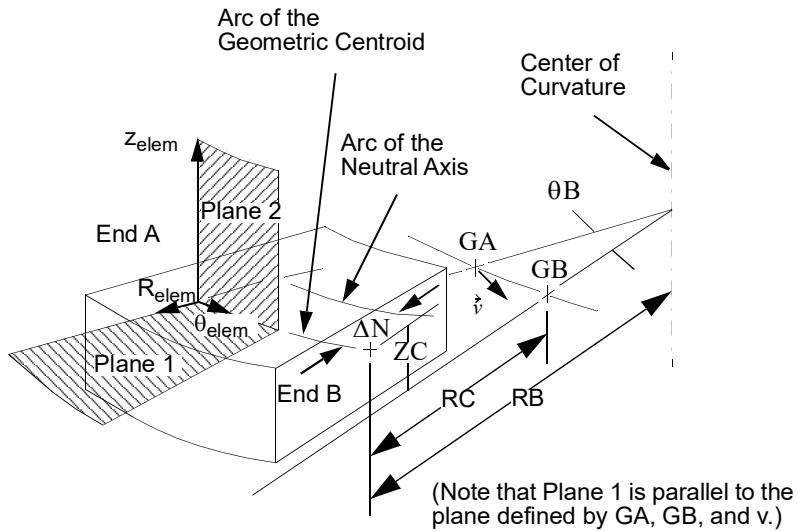

Figure 9-20 CBEND Element Coordinate System
2. For an additional explanation of the CBEND element, see the PBEND entry description. Figure 9-20 and Figure 9-21 define the element coordinate system and internal forces and moments.